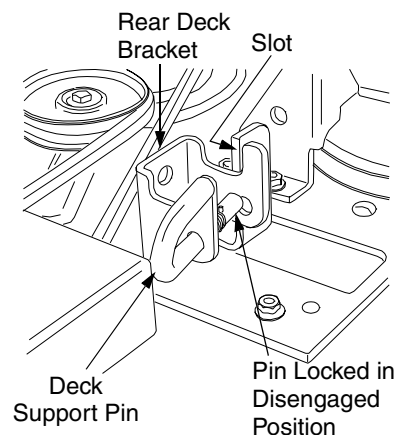

Figure 41
4. From the left side of the tractor, slide the deck under the tractor until the slots of the LH and RH rear deck brackets align approximately with the tractor lift links (See Figure 41).
5. Pull outward and cock the deck support pins in the rear deck brackets so that both spring-loaded pins are held in the disengaged position against the inner surface of the deck brackets (See Figure 41).